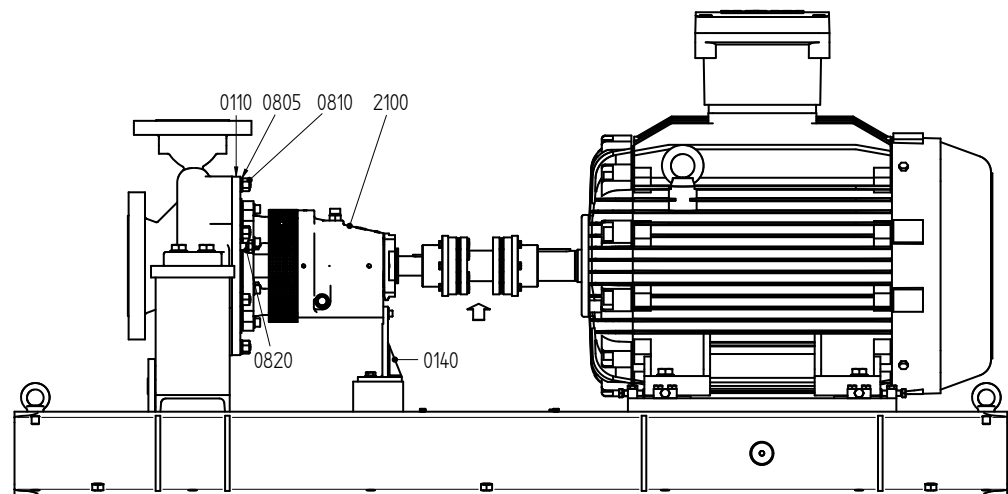

Figure 8: Back-Pull-Out principle.
- 3 Loosen the bracket support (0140) from the base plate, see figure 8.
- 6 Remove the coupling half from the pump shaft and remove the coupling key (2210).